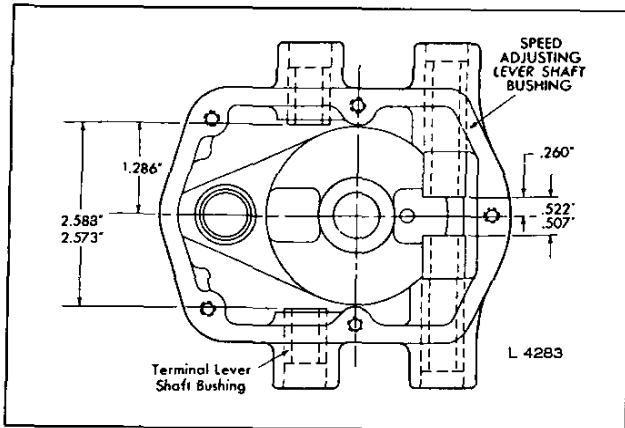

Fig. 11 - Location of Speed Adjusting Lever and Terminal Lever Shaft Bushings in Governor Housing
1. If removed, install new speed adjusting lever and terminal shaft bushings in the governor housing to the specified dimensions shown in Fig. 11.